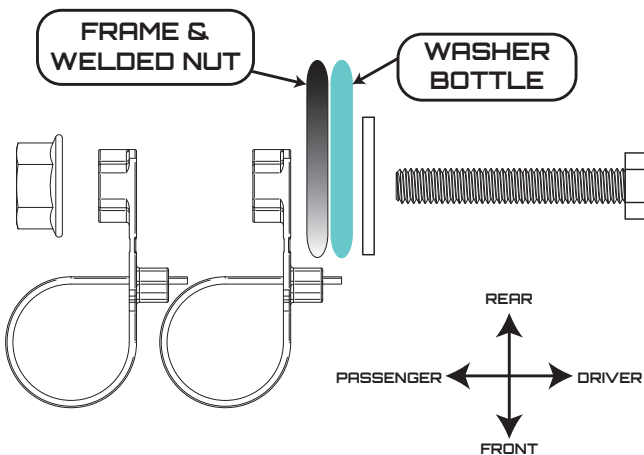

Figure 20 - Securing the Hoses with the High-Temperature Cable Ties & M8 Nut
27. Use two HTD-1004 from the E5G-600-64 Hardware Kit to secure the hoses onto the M8 screw that was installed into the washer fluid tank previously, as shown in Figure 20.